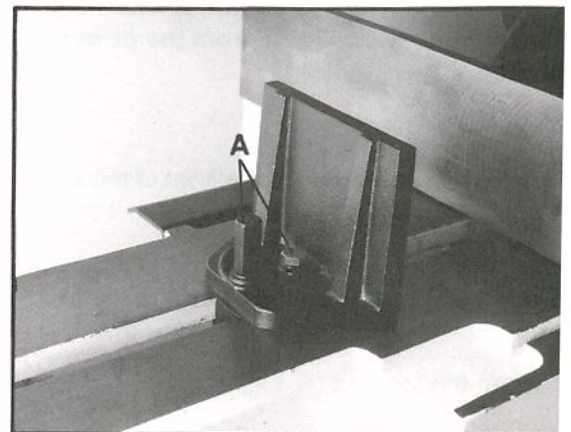

Fig. 16
1. Loosen bolts (A, Fig. 16) and move vise jaw to desired angle.